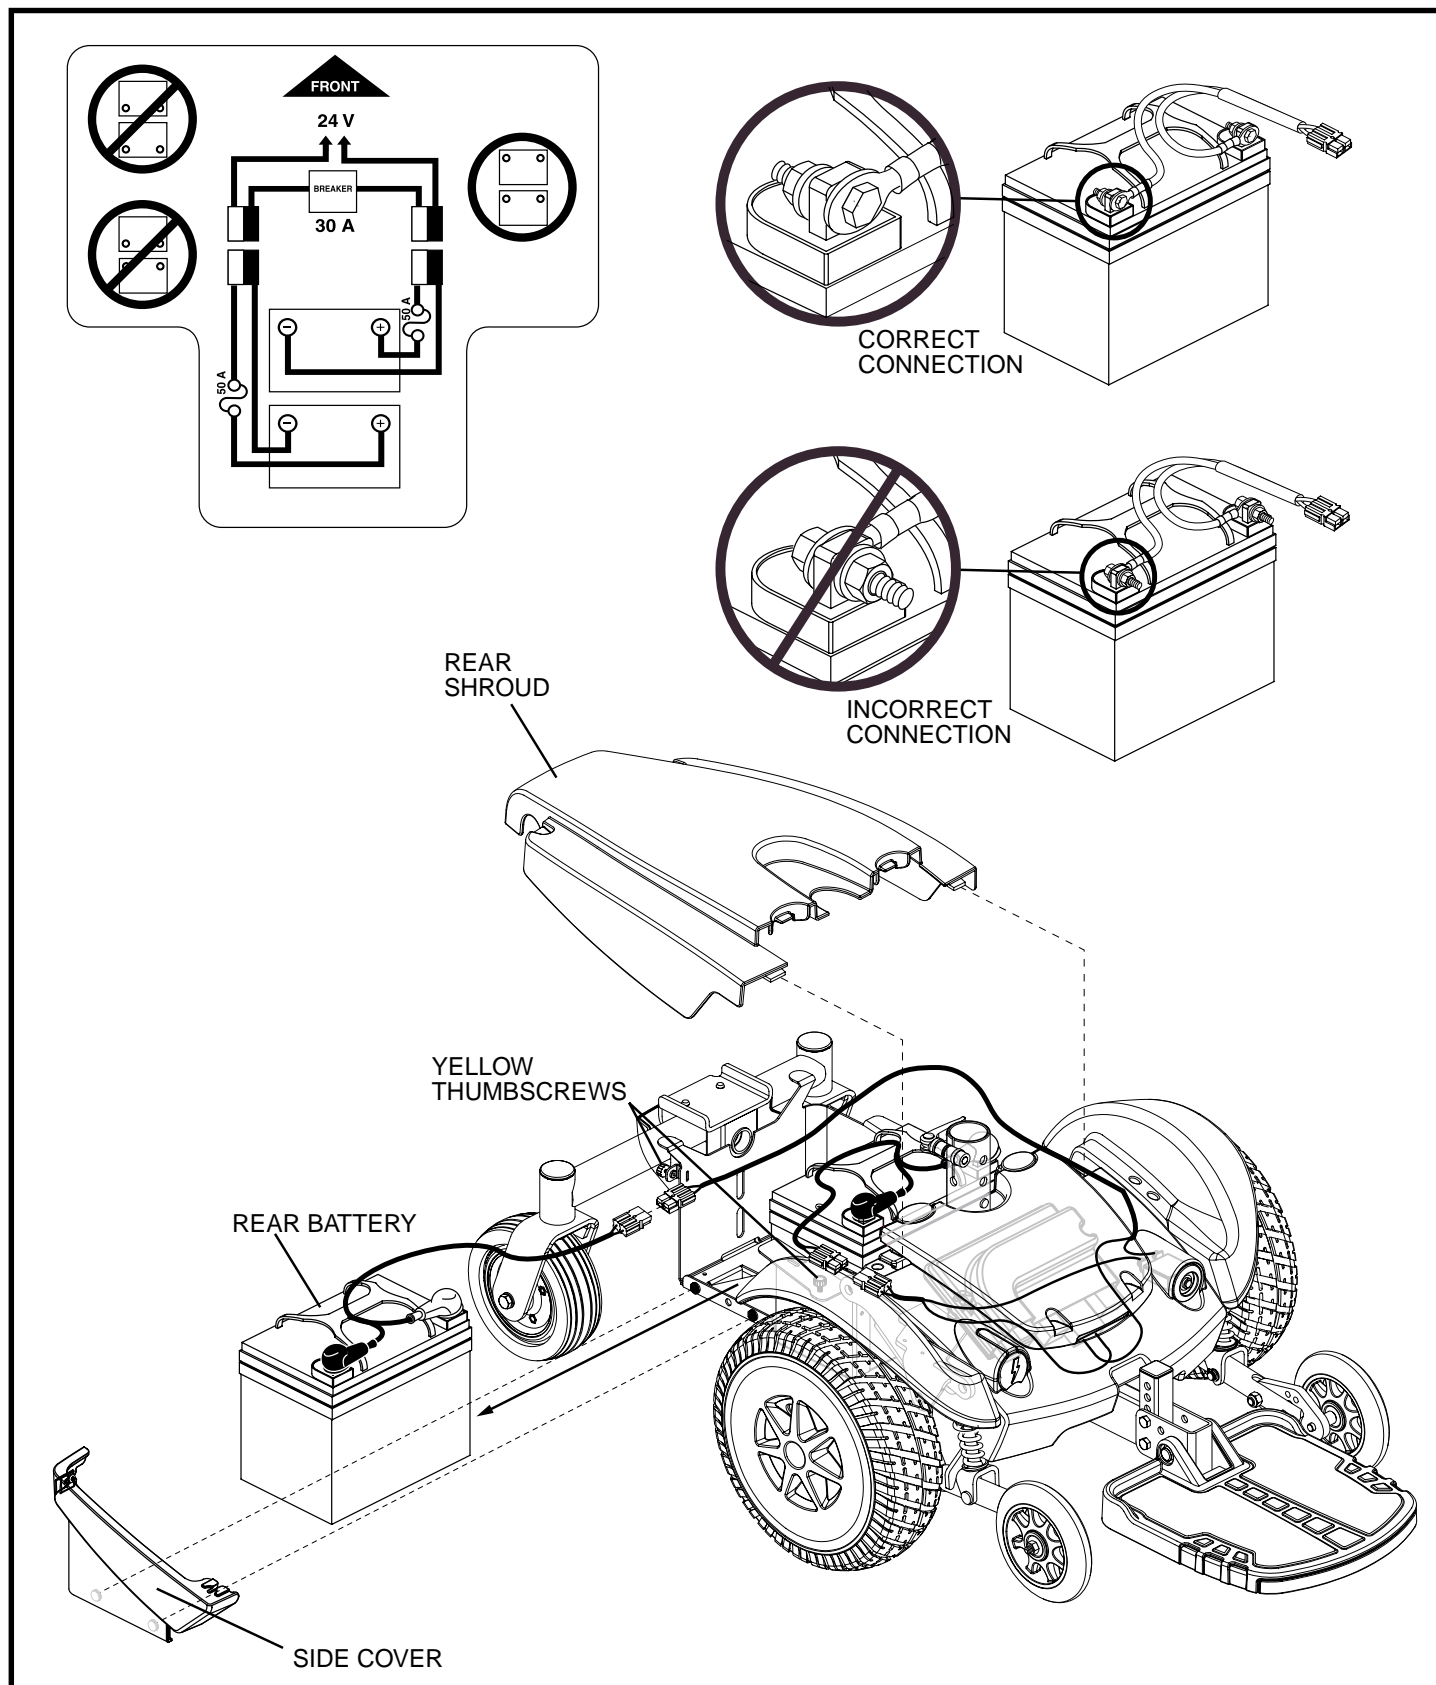

Figure 23. Battery Installation (Seat Removed for Clarity)
3. Remove the rear shroud. See figure 23.
5. Disconnect the rear battery harness from the power base. See figure 23.
8. Disconnect the front battery harness from the power base. See figure 23.
10. Remove the battery harnesses from the old batteries and install them onto the new batteries. Make sure that the hardware is facing the correct direction. See figure 23.
11. Place the front battery into the power base. Make sure that the terminals are facing the front of the power base. See figure 23.
14. Place the rear battery onto the power base. Make sure that the terminals are facing the front of the power base. See figure 23.